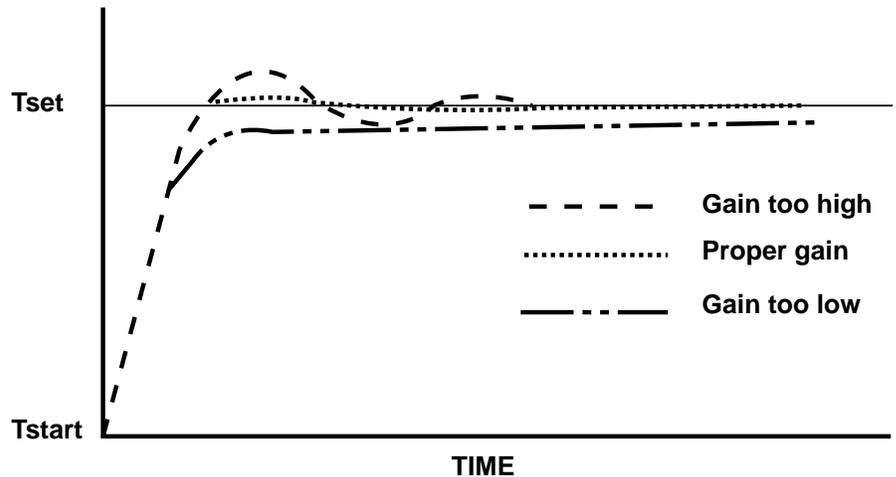

Figure 5: Gain Adjust Settings
- i) When the output is turned on the temperature should be monitored for overshoot and stability. The gain of the control loop can be adjusted to accommodate various thermal time constants of different laser diode mounting arrangements. Figure 5 shows three possible gain adjust settings for a given system. When the gain setting is too high the temperature overshoots the temperature setpoint (Tset) and oscillates around it. If the gain is set too low the temperature never reaches the setpoint. For most telecommunication packaged laser diodes the gain will be at the minimum gain setting which is in the farthest counter clockwise position. For larger mounts the gain adjust setting may have to be increased by turning the adjustment screw in a clockwise direction. If there is too much overshoot in the temperature the GAIN adjustment screw on the back panel must be adjusted.